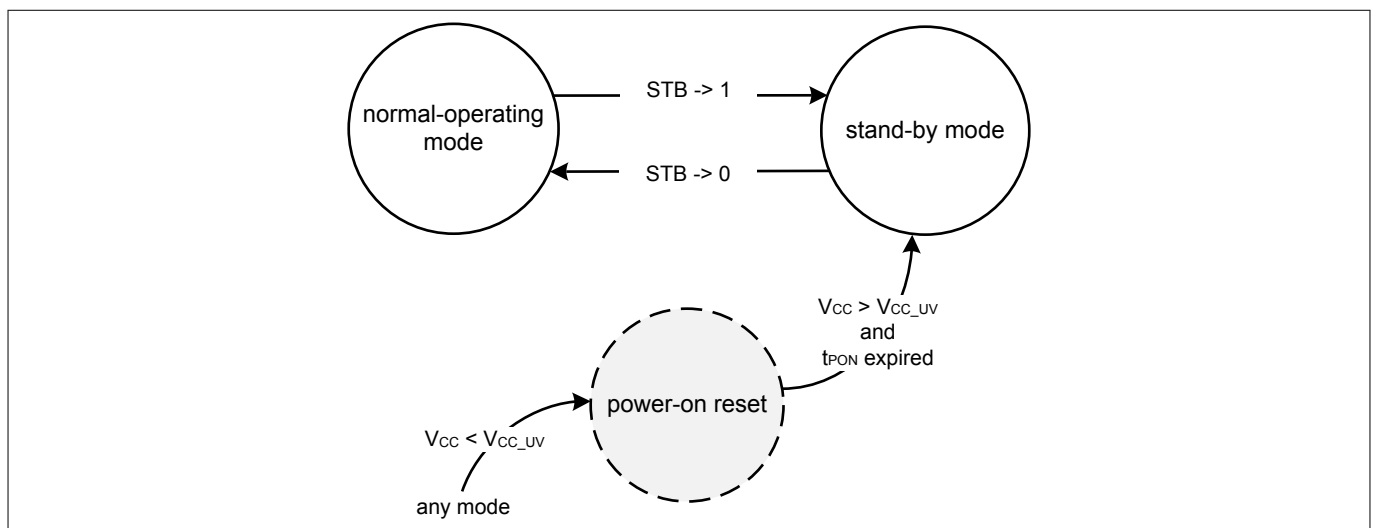

Figure 4 **Mode state diagram**
The TLE9254 supports two different modes of operation for each HS CAN channel (see Figure 4):
In normal-operating mode the TLE9254 sends and receives data from the HS CAN bus. All functions are active (see Figure 4):
- One channel of TLE9254 enters normal-operating mode after t_{Mode} , by setting the respective mode selection pin STB to "low" (see Figure 4).